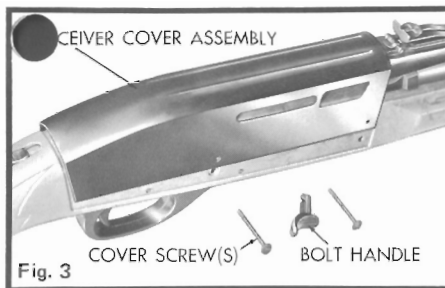

Fig. 3
**RIFLE DISASSEMBLY AND REASSEMBLY** (Fig. 3) — After extended shooting, or when rifle is to be laid away for some time, only partial disassembly for cleaning is required. Disassemble and reassemble as directed. Cock rifle. Push safety rearward to SAFE position. (RED button will not show.) Pull out bolt handle. Unscrew cover screws and remove from receiver cover assembly. Slide assembly upward and remove from rifle. Remove ejector (Free fit), from exposed left side of rifle.